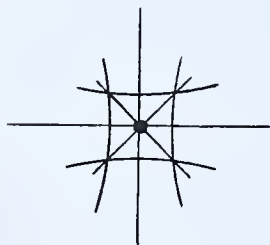

FIG. 274 —
14. Use the rule and soapstone to mark diagonal lines through the intersections of the arc as shown in Fig. 274.
15. Make a center-punch mark on the intersection of the two diagonal lines as shown in Fig. 274.
19. Place the straight edge of the metal strip to cut the center-punch mark in the center of the head. (Fig. 274.).